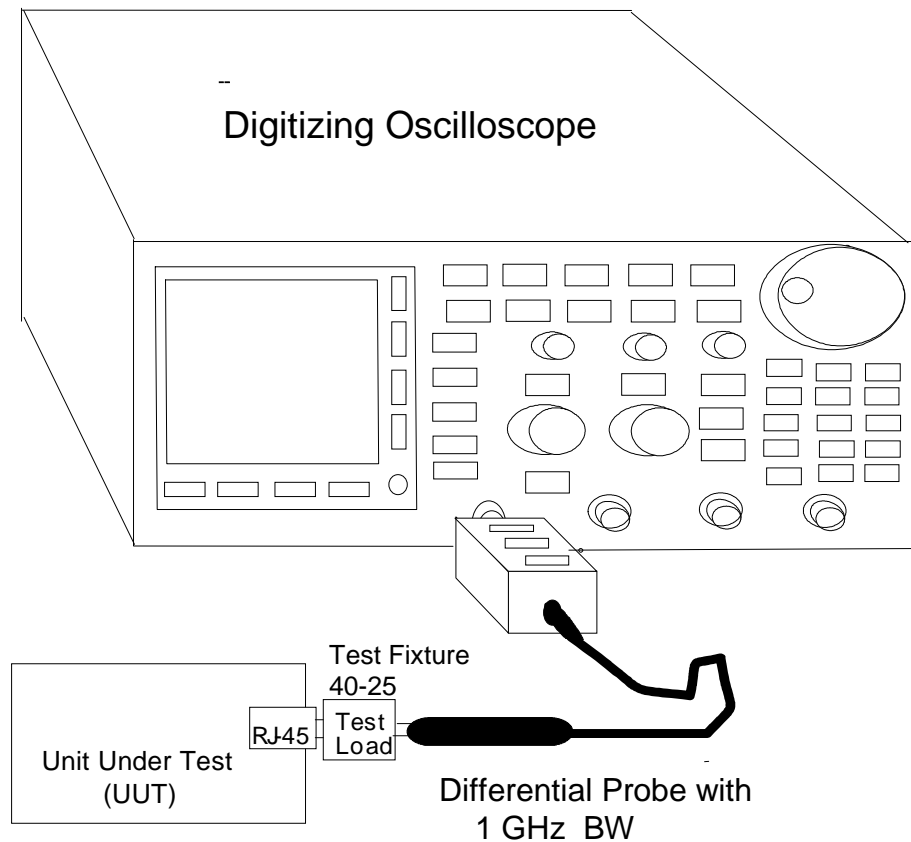

Figure D-1. Test Setup 1 (Specifications: 40.6.1.2.1 and 40.6.1.2.2)
2. Connect the 50 Ω side of the other balun to port two of the network analyzer through a second BNC cable. See Figure D-1.